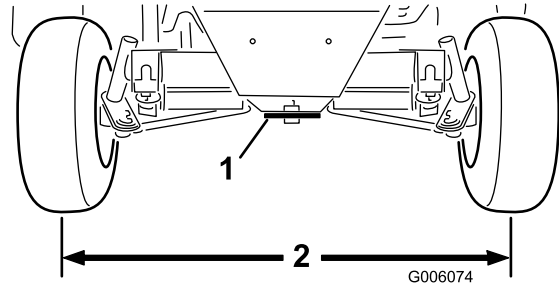

Figure 62
2. Adjust both tie rods until center-to-center distance at front and back of rear wheels is the same (Figure 62).